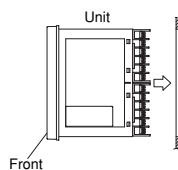

Fig. 2
- (2) As shown in figure 2, fasten with a mounting frame or mounting screws to ensure that there is no gap between the front of the controller and the panel. At this time, check that there are no gaps or warping of the packing as seen in figure 3.
- (3) When using packing with model PXG5/9, tighten in the following manner.